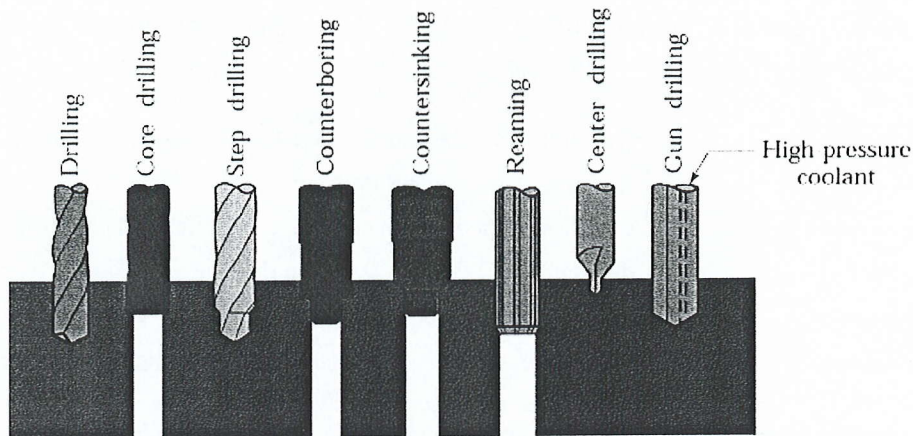

Figure 8: Various types of drilling and reaming operations.
- (e) Small-diameter drills tend to wander more than large ones. Is there any reason, then, to use step drilling? (See Figure 8)